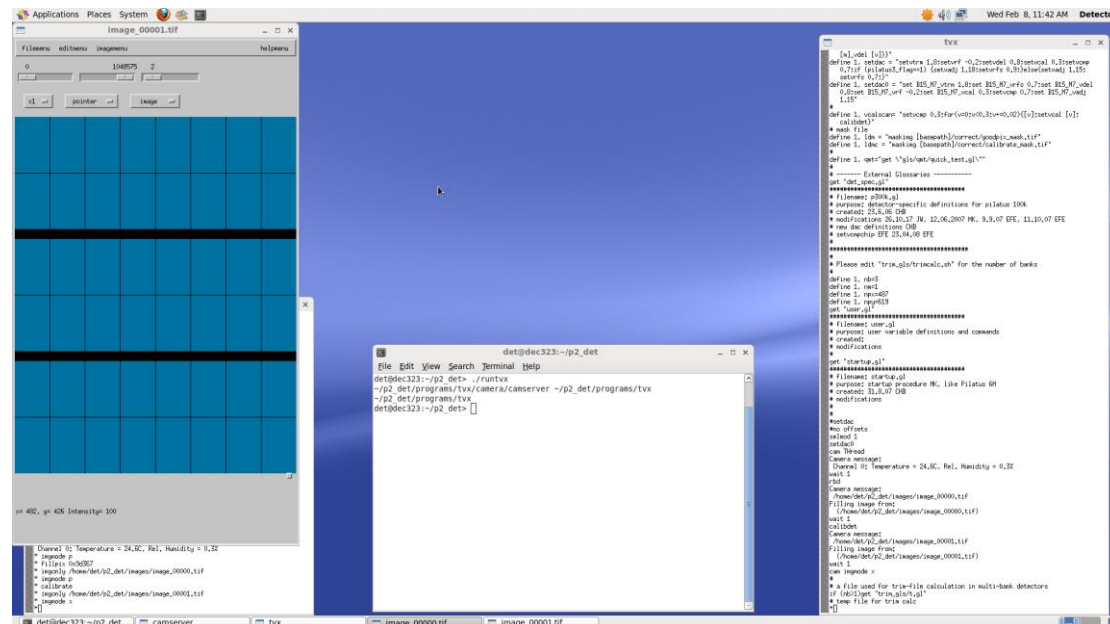

Figure 5. Startup screen after executing `./runtvx`
- The command `./runtvx` is a shell script which starts the programs Camserver (window on the left side of Figure 5) and TVX (window on the right side of Figure 5) as well as manages all log files.
- Once two images (green and blue) appear on the screen the detector is ready to operate. In Figure 5 only one (blue) is visible since it is above the other (green) one. Both terminals (TVX and Camserver) have their prompt, indicated by an asterisk (\*).